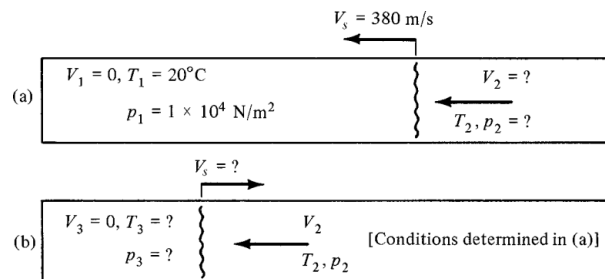

Figure P7.5
7.5 A closed tube contains nitrogen at 20 °C and a pressure of $1 \times 10^4 \text{ N/m}^2$ (Figure P7.5). A shock wave progresses through the tube at a speed of 380 m/s.